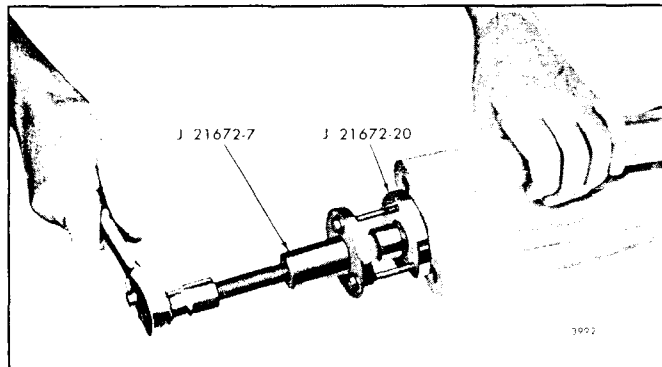

Fig. 9 - Removing Oil Seal Sleeve and Roller Bearing Inner Race from Rotor Shaft
- a. Place the roller bearing inner race and oil seal sleeve remover J 21672-20 over the rotor shaft behind the oil seal sleeve as shown in Fig. 9.
- b. Back out the center screw of one gear puller J 21672-7, then attach the puller to the oil seal sleeve remover with three 1/4"-20 x 3" bolts and flat washers as shown in Fig. 9.